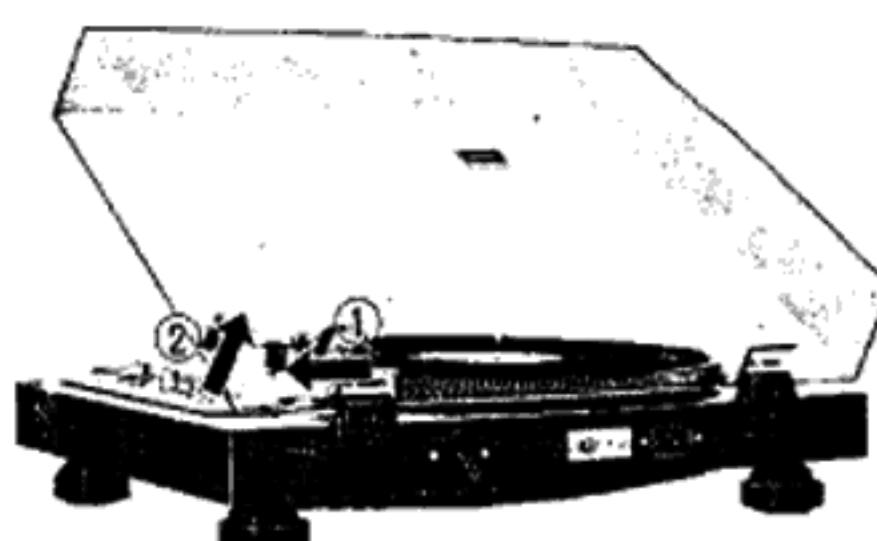

Fig. 2
Slide the cover carefully in the direction of the arrow ① as shown in Fig. 2, then pull it in the direction of the arrow ②.